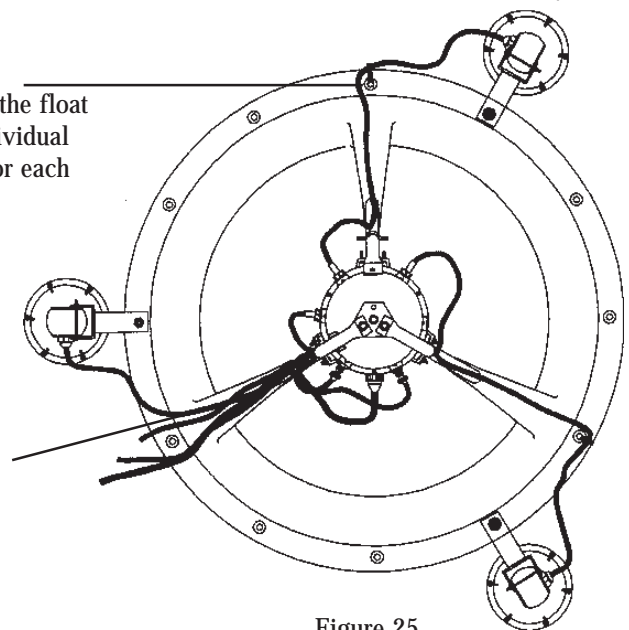

Figure 25
H. Attach all power cables to one of the Support Arms with the Ty-Raps provided --see Figure 25
I. The Light Jumper Cords will also have to be attached to an empty outer float hole with the Ty-Raps provided --see Figure 25
(1) Attach each Light Jumper Cord to an empty hole on the outer edge of the float as close as possible to where each individual light is mounted. This must be done for each Light Jumper Cord.
(2) Attach Power Cables to one of the support arms with the Ty-Raps provided.